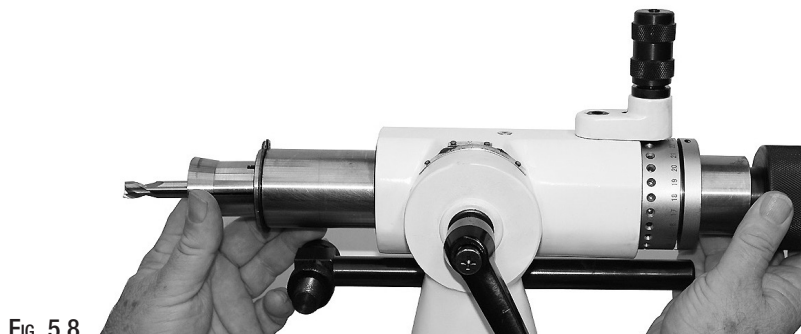

FIG. 5.8
- b. Put 5C collet into the sleeve along the key way, and then rotate the knurled sleeve to lock it firmly. (Fig. 5.8)